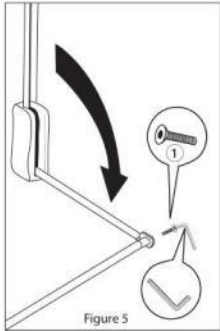
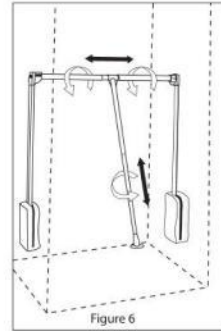

Figure 5
Figure 6
7. Pull down the arm of the unit and place the plastic bracket on the end of both arms. Insert the telescopic hanging rod into one side and secure with hex head bolt (1), see Figure 5. Twist as shown in Figure 6 to adjust hanging rod, attach the other side in the same manner
8. Twist as shown in Figure 6 to adjust the length of the handle.